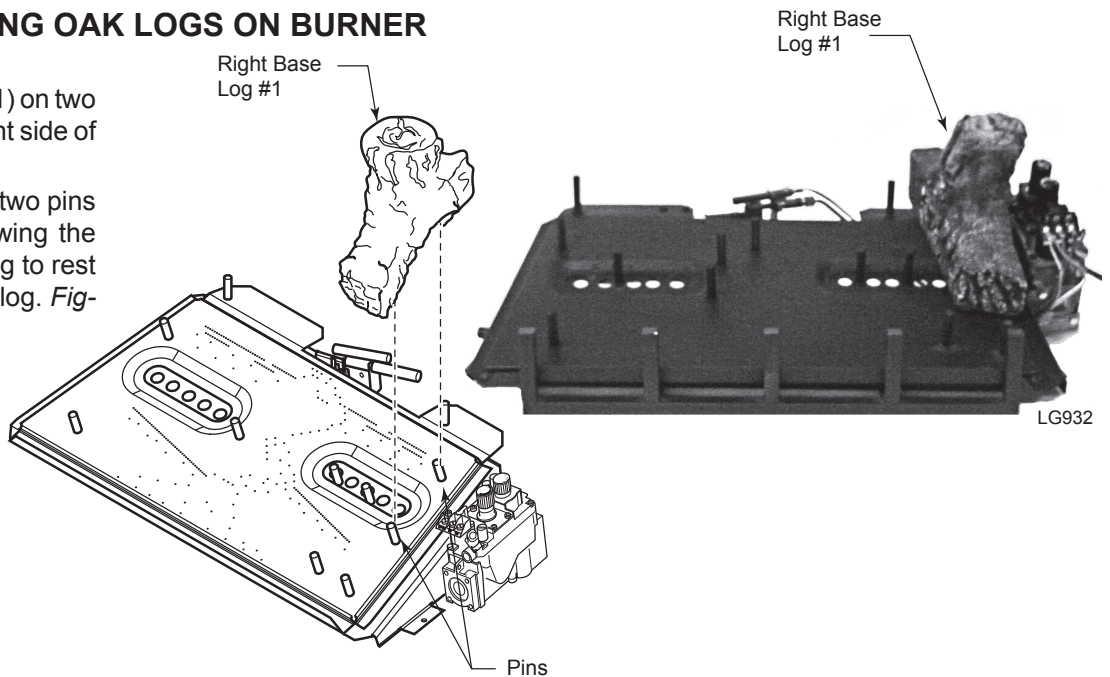

Figure 19
1. Place right base log (#1) on two pins located on the right side of the grate. *Figure 19*